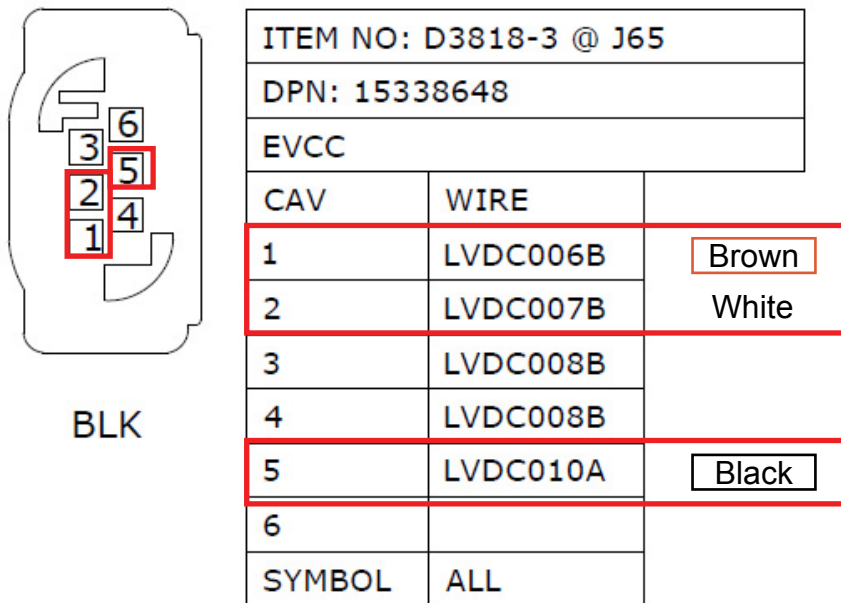

fig. 10a
8. The wires indicated for the connector D3818-3 will need to be moved out and replaced with the overlay harness (fig 10a) Tape back unused loose terminals.